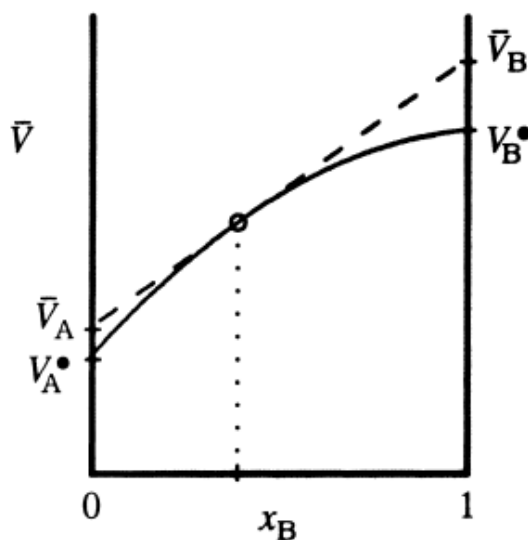

Figure 1
1. Read the description and instructions carefully in the technique part and construct a boiling point apparatus from the flask, condenser, thermometer, tubing, and heating mantle as shown in Fig.1.
5. Calculate number of moles (n) and moles fraction (X) of each solution (While you add solutions by volume, and you know the densities of pure liquid so you can determine the additional masses. From those masses you can calculate mole and mole fraction for each component)
6. Using the Clausius-Clapeyron equation (2) to calculate the vapor pressure P° above each pure liquid for each measured T .